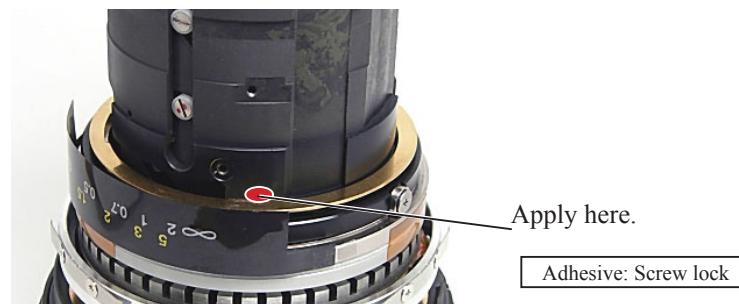

Fig.2
- Rotate the washer (#160) leftwards, and fit the convex portion of the washer in the concave portion of the inner fixed tube. (Fig.2)